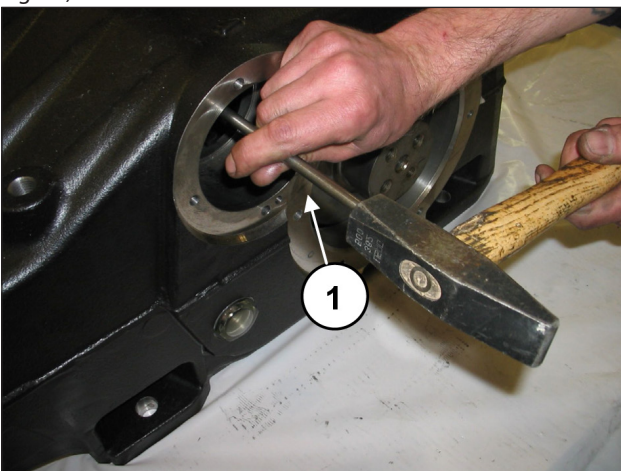
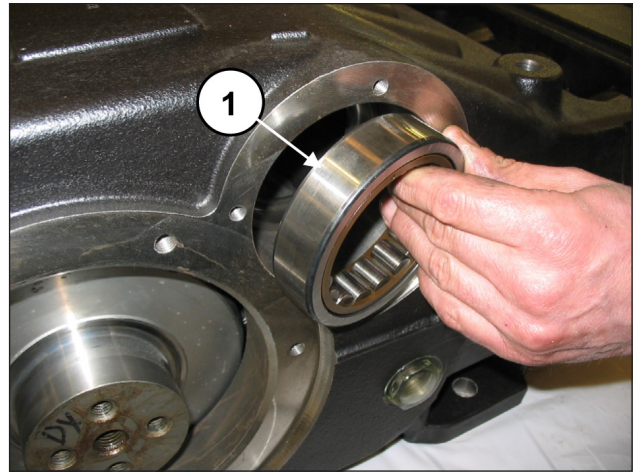
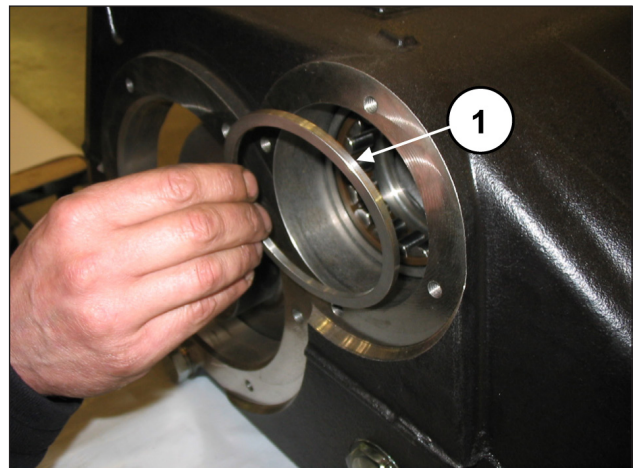
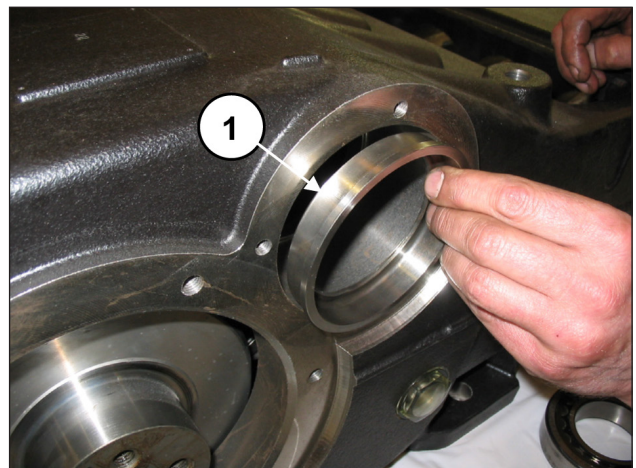

Fig. 34
Fig. 35
Fig. 36
Fig. 37
Using a sufficiently long bar (pos. ①, Fig. 34) and an extractor hammer, take the bearing rings out of the pump casing (pos. ①, Fig. 35), along with the external bearing spacer (pos. ①, Fig. 36) and the bearing lubrication bush (pos. ①, Fig. 37).